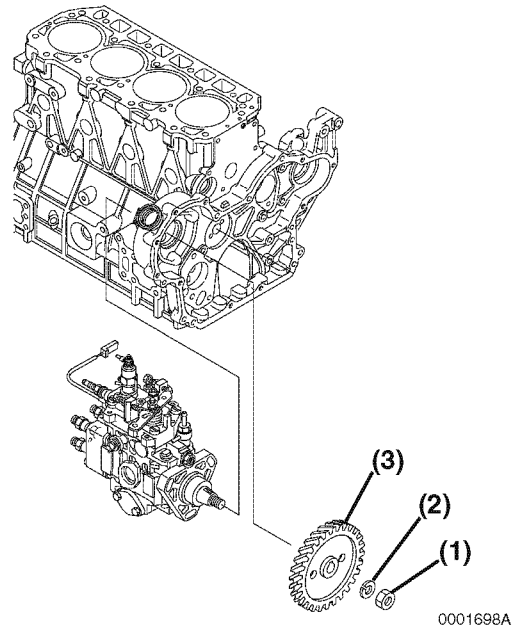

Figure 7-51
2. Install the injection pump drive gear **(Figure 7-51, (3))** on the injection pump shaft lining up the two marks you made on the pump drive gear with the mark you made on the idle gear. See **(Figure 7-46)**.
3. Install the drive gear retaining nut **(Figure 7-51, (1))** and washer **(Figure 7-51, (2))**. While holding the engine with a wrench on the crankshaft pulley bolt, torque the retaining nut to 43.5 - 51 ft lbs (59-69 N·m, 5 - 5.4 kgf·m).